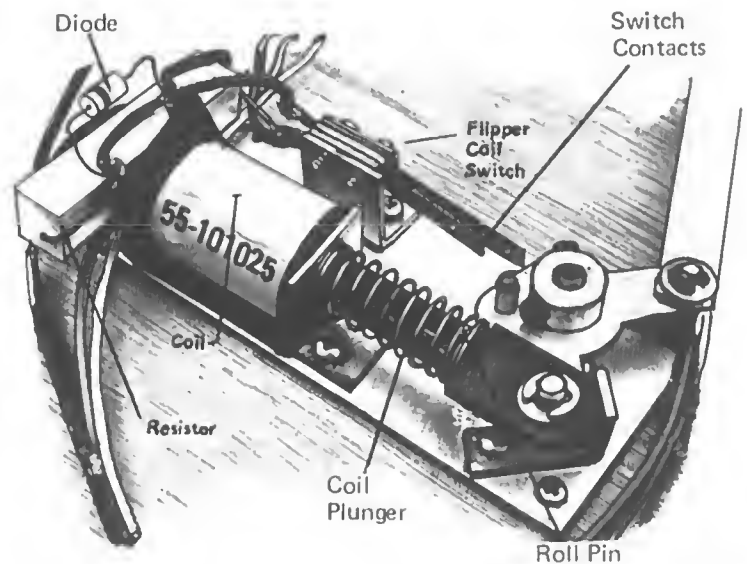

FIGURE 4
14. Adjust the flipper coil switch: (Figure 4). Note that the switch contacts are closed. (Touching) (Figure 4) To adjust these contacts properly, push the coil plunger all the way into the coil with your finger. While holding the coil plunger in as far as it will go, gently bend the short switch contact blade so that the contacts are approximately .030 inch apart.